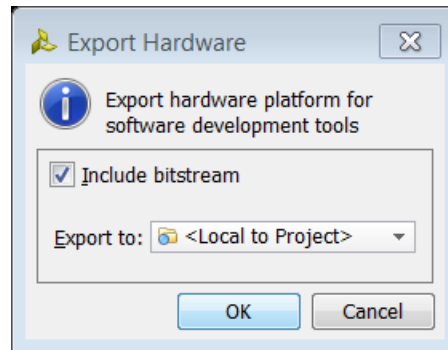

Figure 70: Export Hardware for SDK Dialog Box
2. In the Export Hardware for SDK dialog box, make sure that the **Include bitstream** check box is checked, and **Export to field** is set to **<Local to Project>** (FIGURE 70).